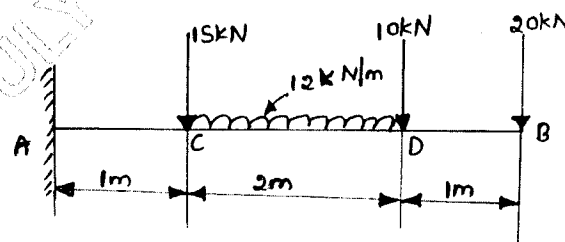

Fig.Q.5(b)
- b. A cantilever beam carries udl and point loads shown in Fig.Q.5(b). Find the reactions at the fixed end and draw the SFD and BMD. (10 Marks)